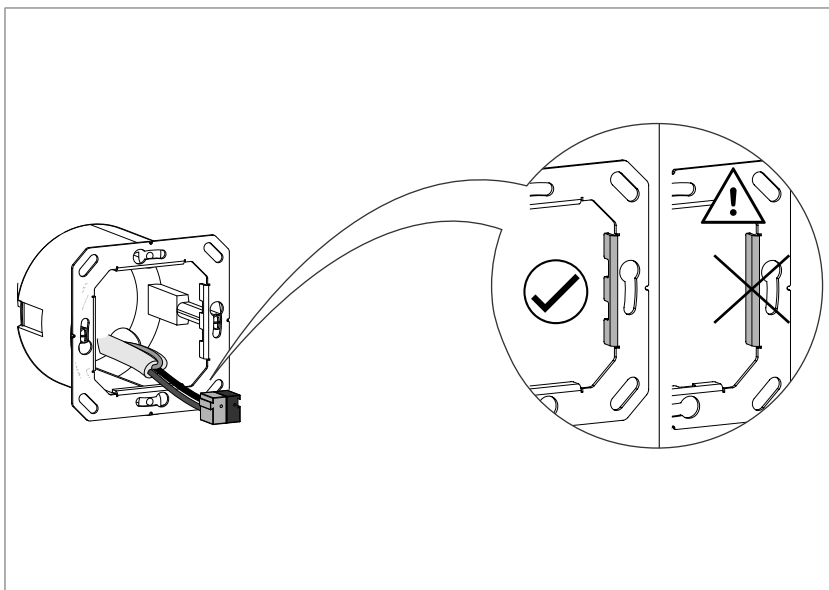

Fig. 5: Fitting the supporting ring
- Install the supporting ring in the correct position on a wall box (Fig. 5), observing the alignment of the detent on the supporting ring.